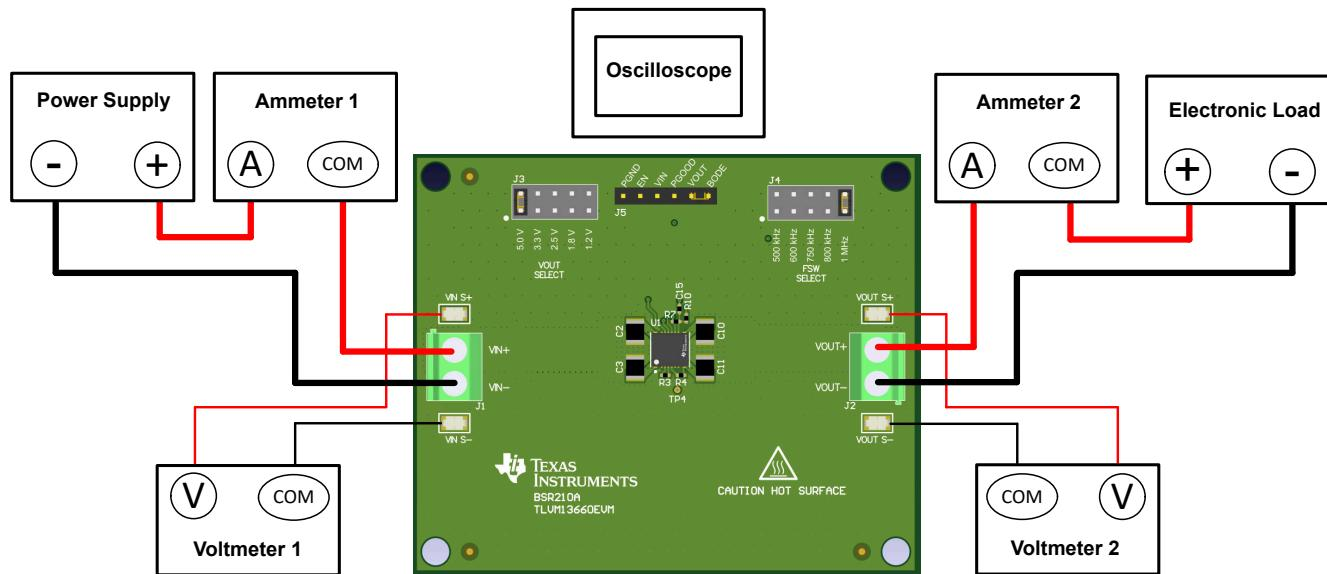

Figure 4-1. EVM Test Setup
Referencing the EVM connections described in Table 4-1, use the recommended test setup in Figure 4-1 to evaluate the TLV13660. Working at an ESD-protected workstation, make sure that any wrist straps, bootstraps, or mats are connected and referencing the user to earth ground before power is applied to the EVM.
- Prior to connecting the DC input source, set the current limit of the input supply to 0.1-A maximum. Ensure the input source is initially set to 0 V and connected to the V_{IN+} and V_{IN-} connection points as shown in Figure 4-1.
- Connect an electronic load to the V_{OUT+} and V_{OUT-} connections as shown in Figure 4-1. Set the load to constant-resistance mode or constant-current mode at 0 A before applying input voltage.